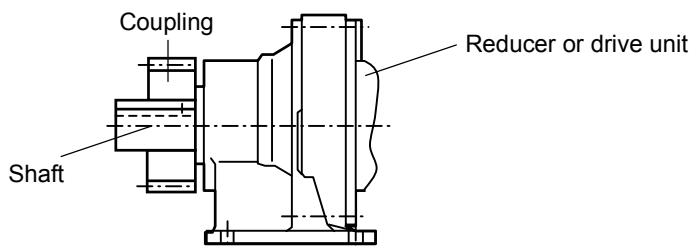
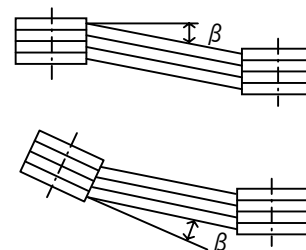

Fig. 4
Fig. 5
(2) Use of chain, sprocket and gear
- Install sprocket and gears so that their point of load application will be closer to the drive unit or reducer side with respect to the length of the shaft. (Fig. 4)
(3) Use of V belt
- Parallelism and eccentricity(β) between two pulleys shall be less than $20'$. (Refer to Fig. 5)